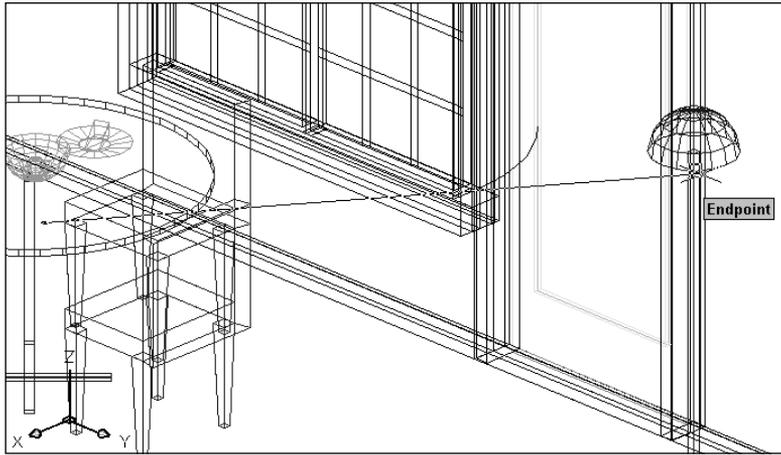

Figure 25-12: Picking the point light location.
4. Type **P1** in the Light Name text box. Click Modify. AutoCAD returns you to your drawing. Click Pan Realtime and pan to the right a couple of times until you see the floor lamp, as shown in Figure 25-12. Press Esc to exit Pan mode. At the `Enter light location <current>:` prompt, pick the endpoint shown in Figure 25-12. AutoCAD returns you to the New Point Light dialog box.